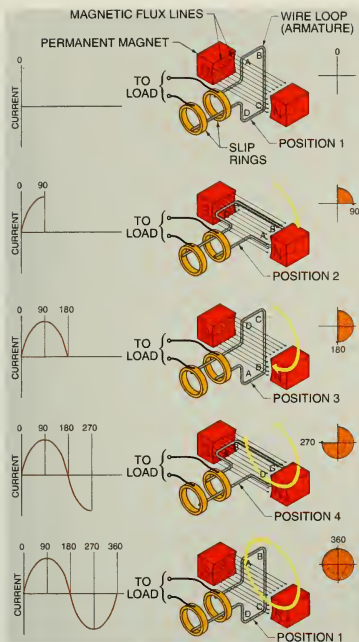

Figure 15-8. Voltage changes direction in a wire as it alternately passes through north and south magnetic poles.
Alternating Current. *Alternating current (AC)* is a flow of electrons that reverses its direction of flow at regular intervals. AC is generated as a loop of wire (armature) enters and leaves a magnetic field. See Figure 15-8. In position 1, the rotor is just about to rotate in the clockwise direction. There is no current flow at this point because the rotor is not cutting any magnetic flux lines. As the rotor rotates from position 1 to position 2, the rotor begins to cut across the magnetic flux lines. The voltage in segments AB and CD increases as the rotor rotates. The maximum number of magnetic flux lines are cut when the rotor is in position 2. The induced voltage is greatest in this position.